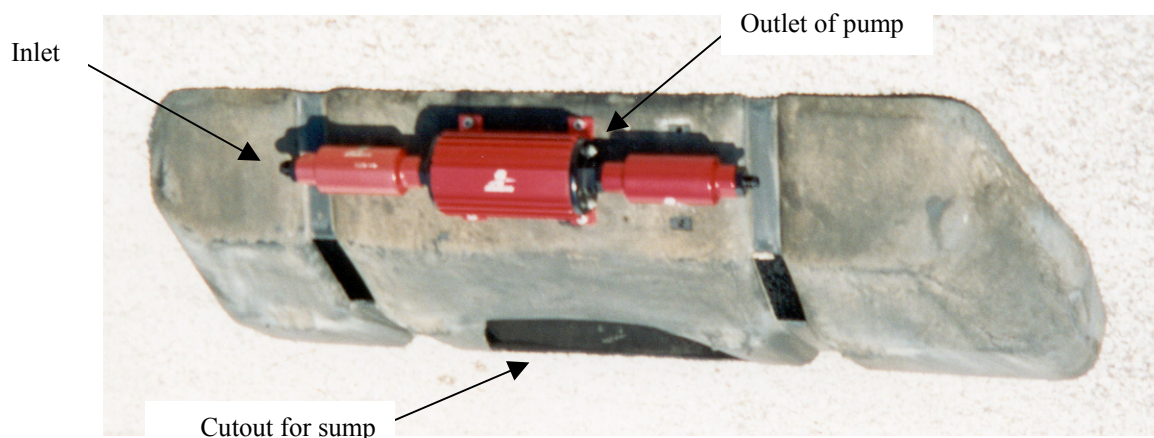

Figure 1-3
- 1-9. Install one of the supplied AN-10 o-rings on the cutoff side of the AN-10 cutoff union fitting, if not already installed, and install on the inlet side of the pump / filter assembly as shown in figure 1-3.
- 1-10. Install one of the supplied AN-10 o-rings on the AN-10 cutoff side of the AN-10 cutoff to AN-06 reducer union fitting, if not already installed, and install on the outlet side of the pump / filter assembly as shown in figure 1-3
- 1-11. Position the fuel pump / filter assembly from above on the opposite end of the plastic fuel tank shield as the sump cutout. Center the pump / filter assembly in all directions on the flat shown in figure 1-3. Using the fuel pump as a guide, mark the four pump mounting holes. Insure there are no obstructions behind the plastic fuel tank shield and drill four $\frac{1}{4}$ " mounting holes.
- 1-12. The fuel pump should be installed such that when the plastic fuel tank shield is installed the fuel pump outlet is on the driver side of the vehicle. Secure the fuel pump to the plastic fuel tank shield by installing each of the four $\frac{1}{4}$ " carriage bolts from the inside of the fuel tank shield, through the fuel tank shield and through the fuel pump mounting holes. Install each of the four provided flat washers and nuts on the bolts and tighten. The plastic fuel tank shield now should look similar to the one shown in figure 1-3.